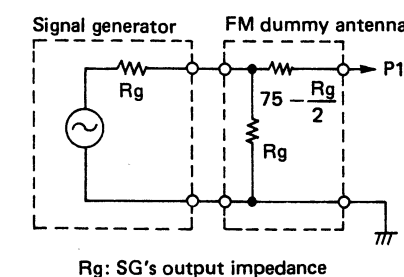

Fig. 4
- Transmit to the dummy antenna in Figure 4 and connect to P1.